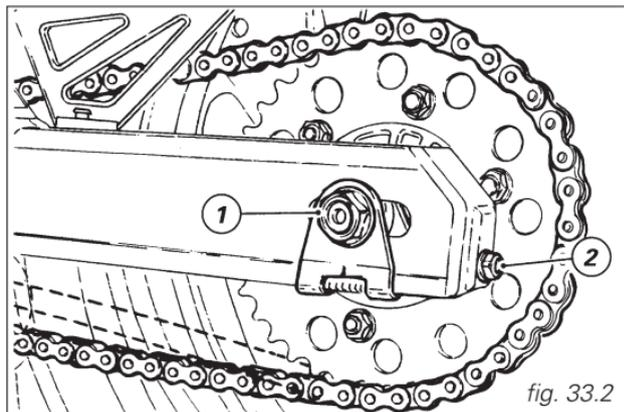

fig. 33.2
To adjust chain tension, slacken the nut (1, fig. 33.2) of the wheel spindle. Then tighten similarly the screw (2) clockwise on both sides of the swing arm to increase or reduce chain tension. If you are slackening the chain, you will have to push the wheel forward.